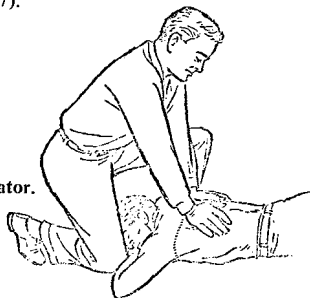

FIGURE 17. Position of Operator.
- b. Position of the operator—kneel on either the right or left knee at the victim's head, facing him. Place your knee at the side of the victim's head close to his forearm. Place your other foot near his elbow. If it is more comfortable, kneel on both knees, one on either side of the victim's head. Place your hands on the flat of the victim's back so that the palms lie just below an imaginary line running between the armpits. With thumb tips just touching, spread your fingers downward and outward (Figure 17).